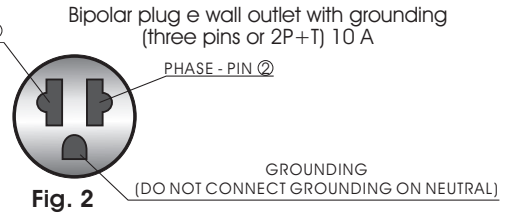

Fig. 2
- 2►For the installation use a grounded outlet (2P + T, 10A) connecting phase/neutral or phase/phase on the side pins and grounding on the central pin (Fig. 2, page 8). **Never connect the grounding on neutral.**